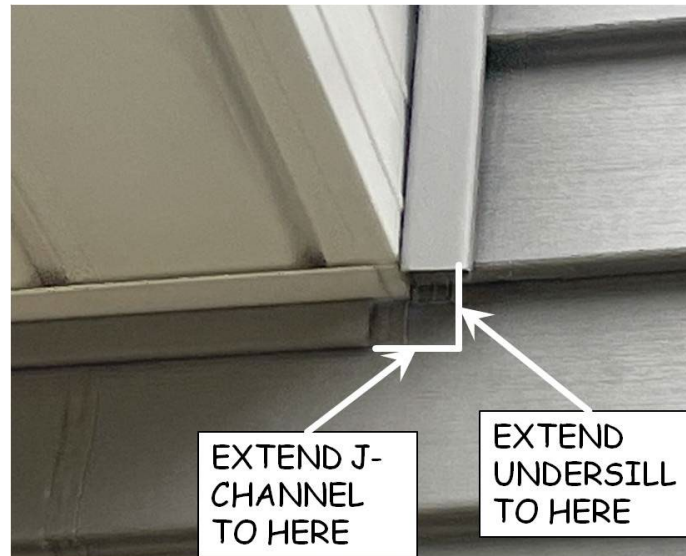

Figure 11-10. Undersill/J-Channel Corner.
6. Where a roof meets a wall, J-channel is installed vertically. Figure 11-10 shows the intersection of the end of the porch roof with the house wall. The J-channel should